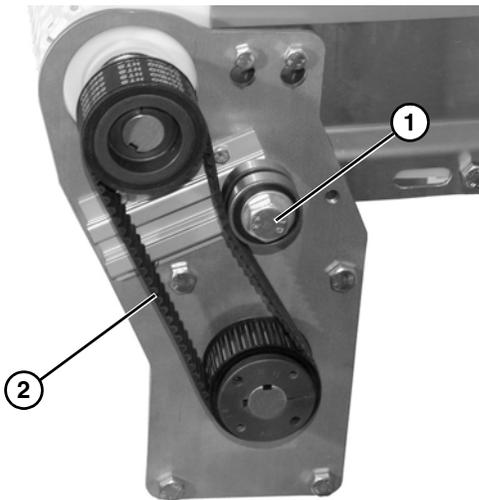

Figure 16
5. Tension timing belt to obtain 1/8" (3 mm) deflection for 6 lb (3 Kg) of force at timing belt mid-point (Figure 16, item 2). Tighten tensioner screw (Figure 16, item 1) to 110 in-lb (12 Nm).